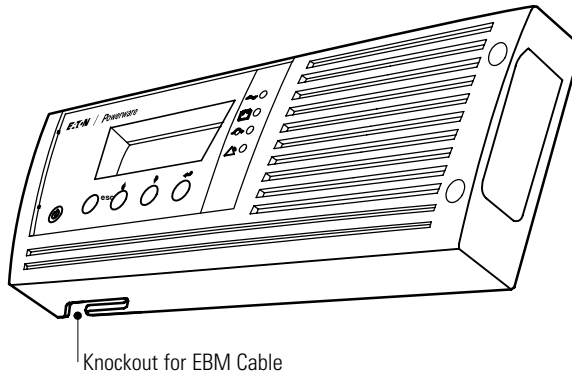

Figure 11. Removing the EBM Cable Knockout
1. On the bottom of the UPS right front cover, remove the EBM cable knockout (see Figure 11).